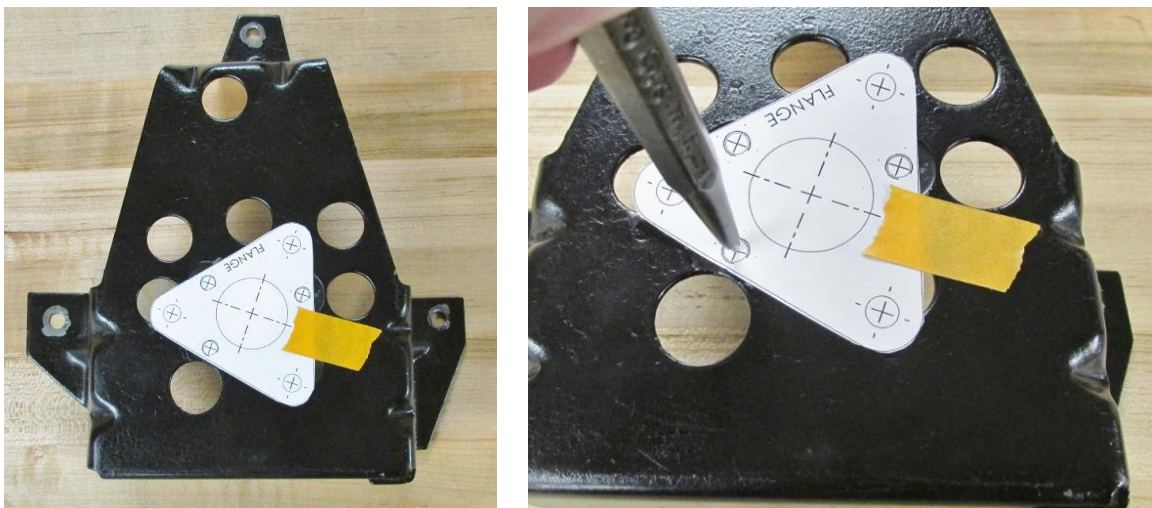

Figure 4 - Transfer Punch Bracket
- Use a center punch and locate the center of the three smaller holes to the bracket (Figure 4). Remove the template from the bracket.